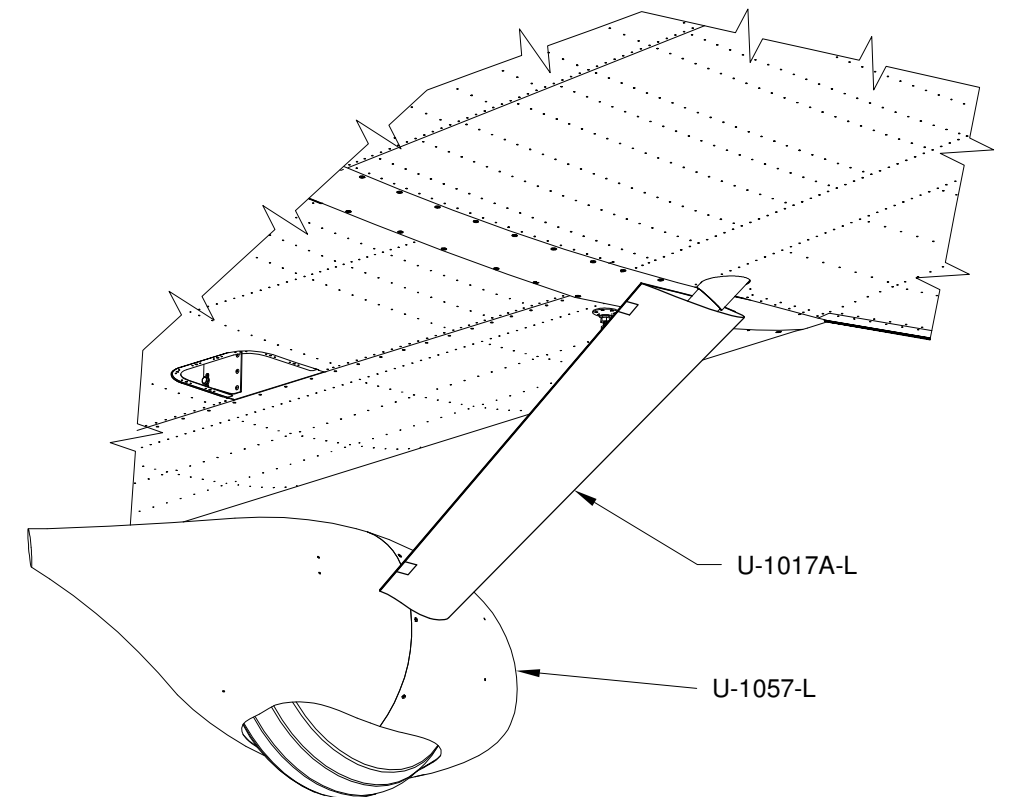

FIGURE 2: INSTALLING GEAR LEG FAIRINGS
Step 3: Place the trimmed U-1017A-L Gear Leg Fairing on the gear leg as shown in Figure 2. Clamp the trailing edge closed with two or three spring clamps.